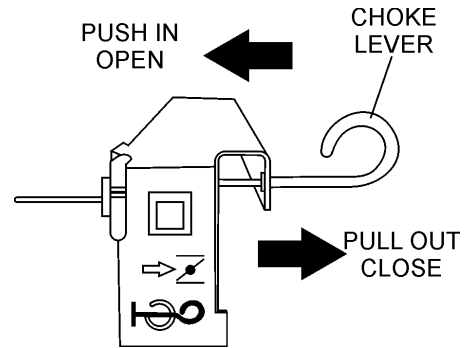

Figure 13. Choke Lever
2. Place the choke lever (Figure 13) in the **CLOSED** position if starting a cold engine.
3. Place the choke lever (Figure 13) in the **OPEN** position if starting a warm engine or the temperature is warm.
- If the engine has started, slowly return the choke lever (Figure 13) to the **OPEN** position. If the engine has not started repeat steps 1 through 8.